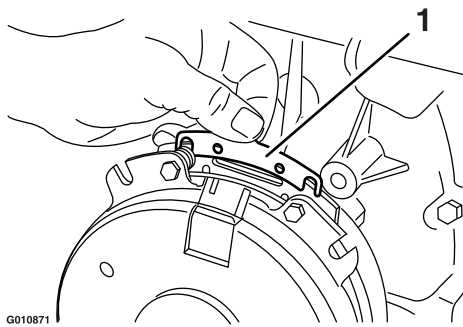

Figure 90
- B. Using needle-nose pliers, or by hand, hold the tab and remove the shim (Figure 90).
Remove any buildup of grass, dirt, or other debris from the engine screen. This helps ensure adequate cooling and correct engine speed and reduces the possibility of overheating and mechanical damage to the engine (Figure 90).